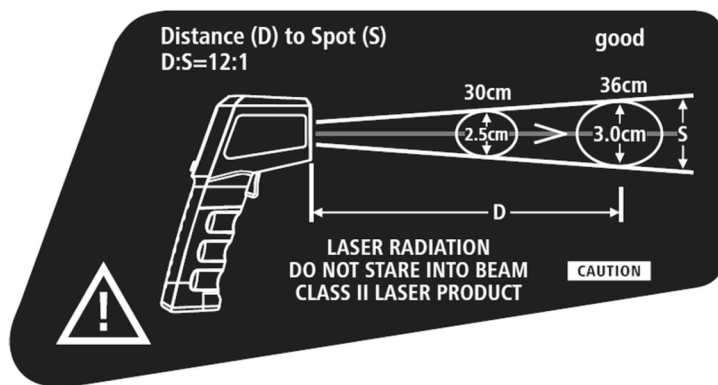

Fig. 2
The greater the distance (D) from the target object, the larger the measuring spot size (S), i.e. as the distance from the infrared thermometer to the object increases, the measuring spot area becomes larger (Fig. 2), which is referred to as D:S (distance-spot ratio).